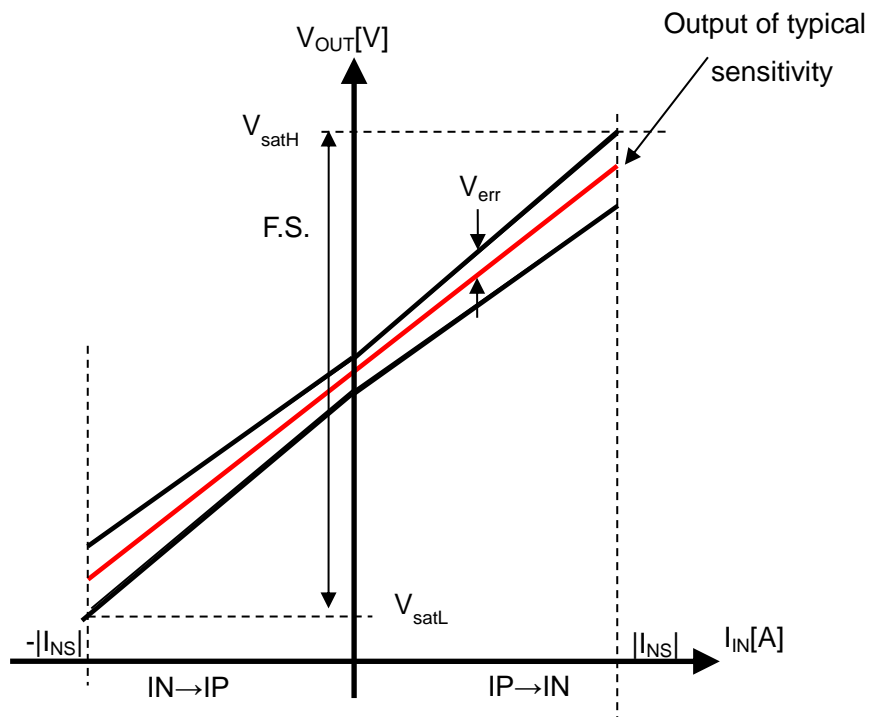

Figure 4. Total Accuracy of CZ-3AG4
10.2. Total Accuracy E_{total} [%F.S.] is defined as below (See Figure 4.)